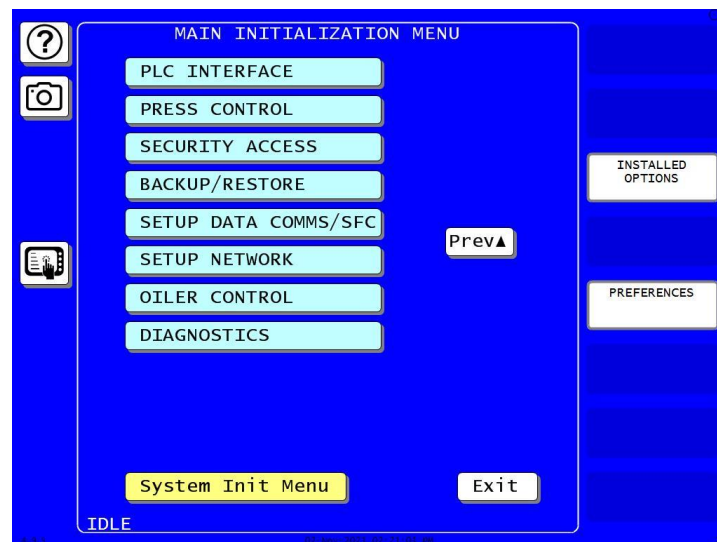

Figure 8. Main Initialization Menu with the OILER CONTROL shown.
4. Select OILER CONTROL from the Main Initialization Menu (see Figure 8).